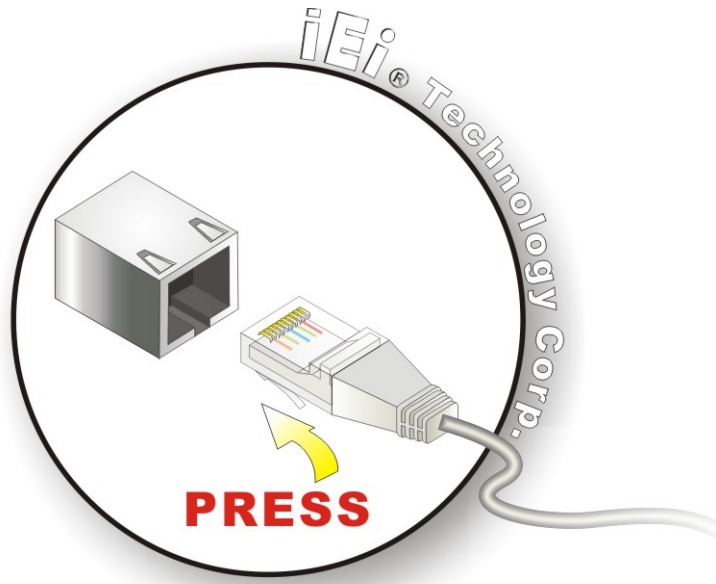

Figure 4-9: LAN Connection
Step 2: **Align the connectors.** Align the RJ-45 connector on the LAN cable with one of the RJ-45 connectors on the uIBX-200-R21/VX800. See Figure 4-9.